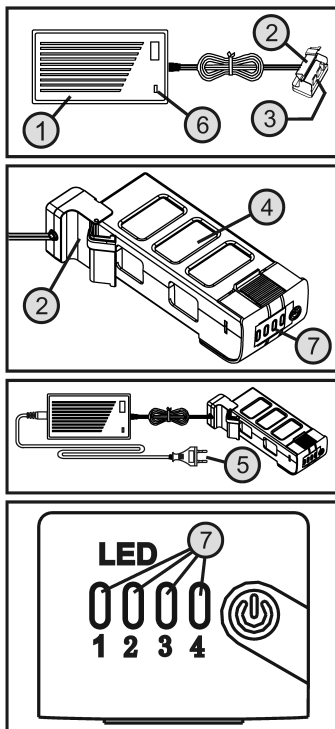

Figure 3
Connect the flight battery (4) to the charge adapter according to the two middle illustrations in figure 3.